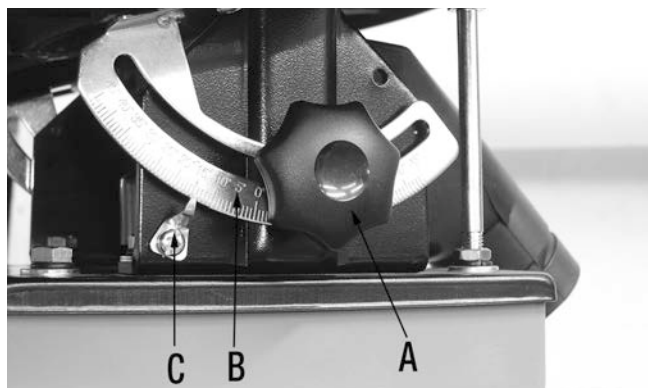

FIGURE 10
1. Loosen the two table lock knobs (A) Fig.10, located under the table on both sides of the sander.
3. An angle scale (B) and pointer (C) are provided at the right side of the trunnion to indicate the degree of table tilt.